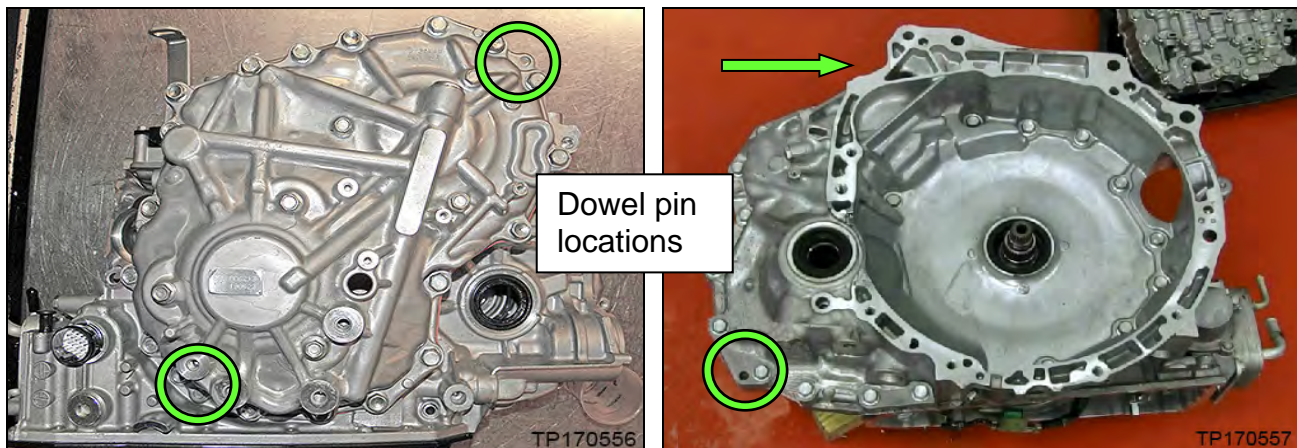

Figure 1
- Apply rust penetrant to locator / dowel pins on torque converter housing and side cover of CVT and allow to soak as needed (Figure 1).